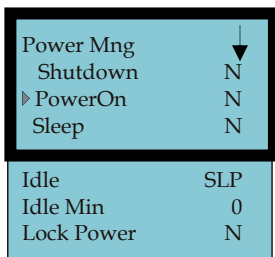

Figure 2-102 Power Management Menu
3. Press **OK** to display the Power Mng menu (see **Figure 2-102**).
3. Once the desired shutdown time of day in 24H format is set, press **OK** to exit and display the Power Mng menu (see **Figure 2-102**).